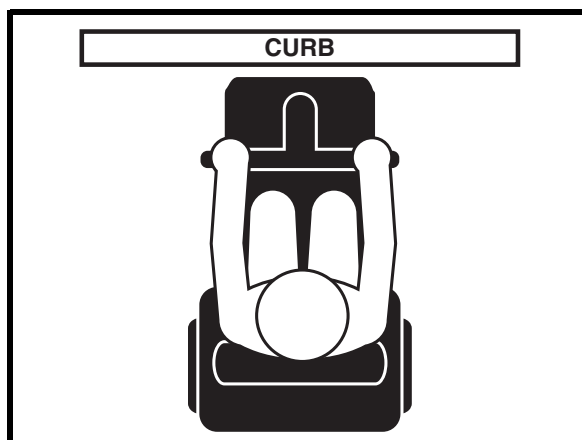

Figure 3. Correct Curb Approach
**WARNING!** Be sure your Travel Scooter is traveling perpendicular to any curb you may be required to ascend or descend. See figures 3 and 4.